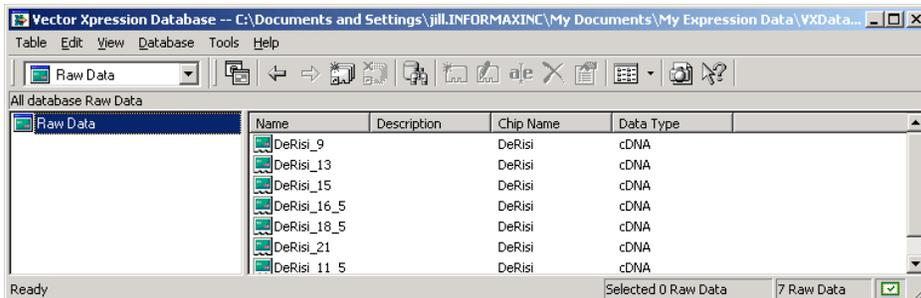

Figure 1 Opening Vector Xpression Database
1. From the Windows Start button, select **Start > Programs > InforMax 2003 > Xpression Explorer** to open the Vector Xpression Database Explorer (Figure 1).